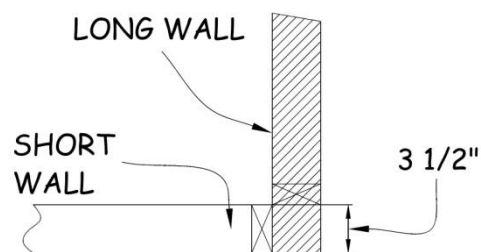

Figure 6-4. Basement Exterior Wall Corner.
2. Start by laying out the exterior walls. Where exterior walls meet, locate a stud 3 1/2" from the end of the long wall plate that runs past the short wall to provide a sheetrock nailing surface as shown in Figure 6-4.